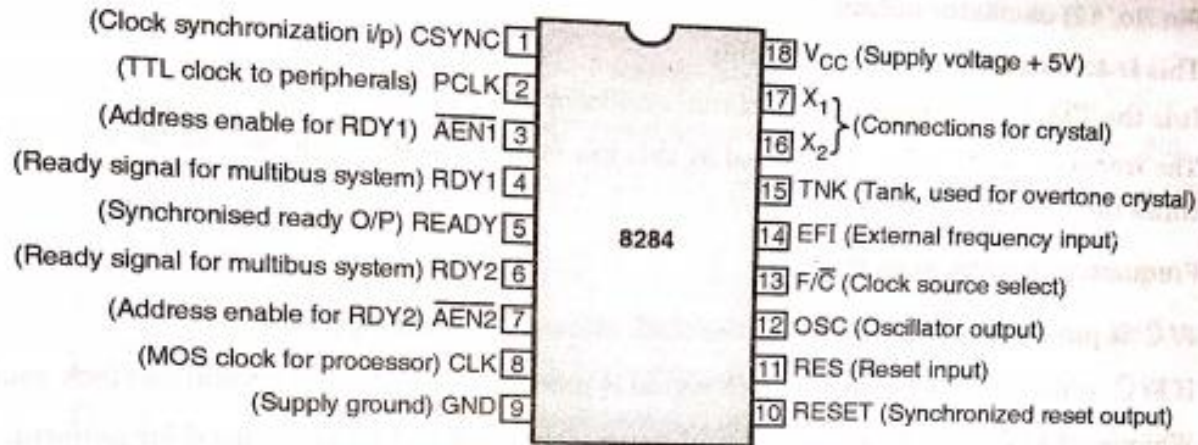

Fig. 3.2.2(b) : Pin configuration and explanation for 8284
- READY (pin 5) is an active high output signal generated by 8284. This pin is connected directly to the READY input of the 8086 processor as shown in Fig. 3.2.2(b).